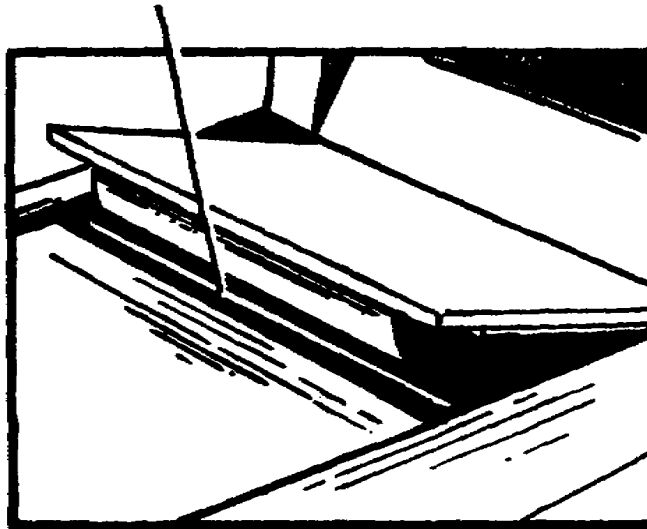

Figure 2-4. Inspection shoe actuator
- b. To use this station, raise the hinged cover, figure 2-3, and prop it in place by raising the hinged curved piece that is below it so that the edge of the cover catches the edge of the curved piece, as shown in figure 2-4. Prints will now automatically exit at this station due to the position of the inspection shoe actuator.